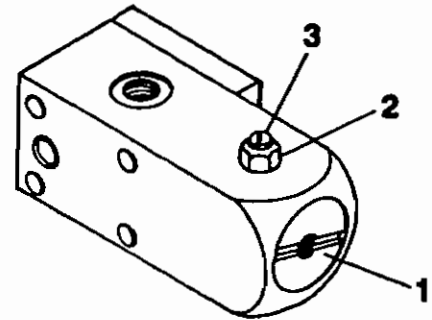

Fig. 8.1 Pressure maintaining valve
The pressure maintaining valve is adjusted at the factory to the required pressure and normally does not require regular maintenance or readjustment. In case readjustment becomes necessary, loosen the jam nut (2, fig. 8.1) and set screw (3). Set the adjusting screw (1) to the required pressure using a suitable screwdriver.